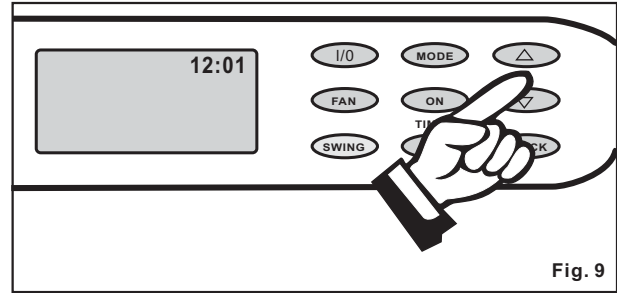

Fig. 9
2) Push either the  $\Delta$  or  $\nabla$  key pad, to enter the correct time of day. Each depression of the key pad will increase or decrease the time of day setting (1 minute increments). Fig. 9.